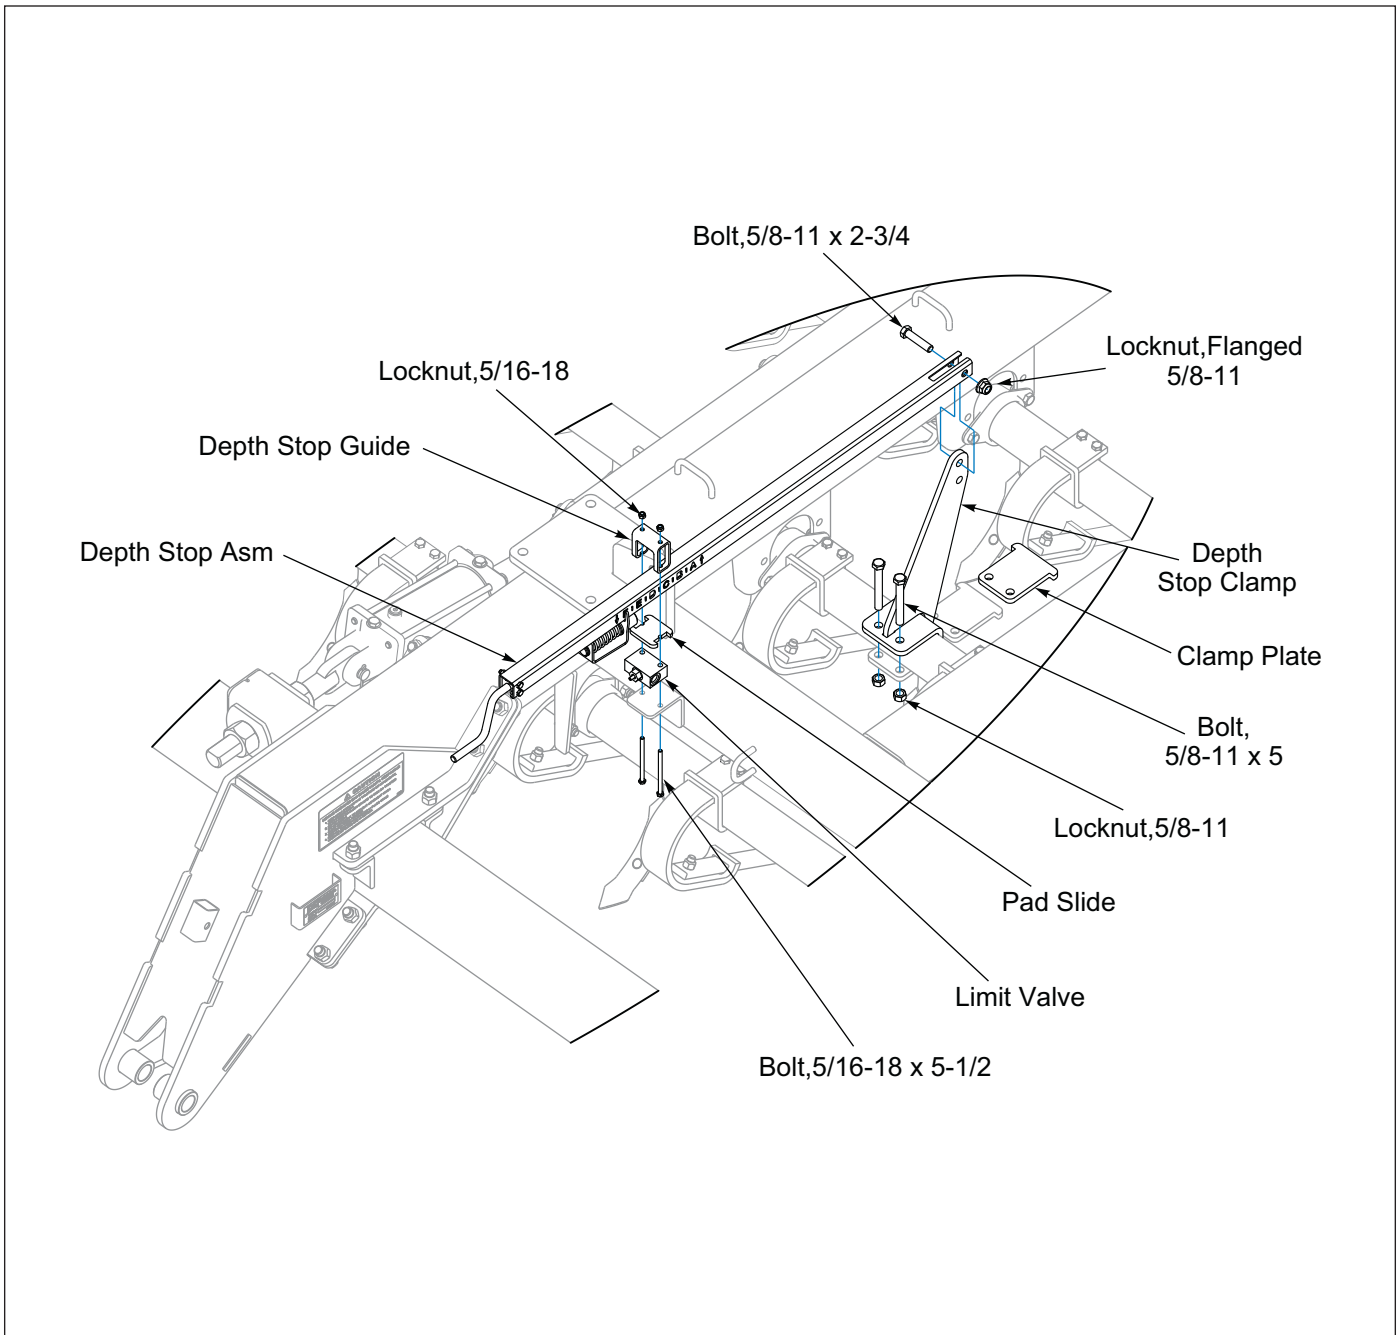

Figure 2-33: Shank Depth Control Installation
1. If not already done, install Limit Valve, Slide Pad and Depth Stop Guide to Limit Valve Mount located at the front of the left side frame cross tube with 5/16-18 x 5-1/2 Bolts and Locknuts. **See Figure 2-33.**
3. Slide the Depth Stop Assembly through the Depth Stop Guide to the Depth Stop Clamp. Position the Depth Stop Assembly over the Depth Stop Clamp Lug and align the Top Hole of the Depth Stop Clamp for the 24" Roller Wheels. Insert and secure with 5/8-11 x 2-3/4 Bolt and Flanged Locknut. **See Figure 2-33.**